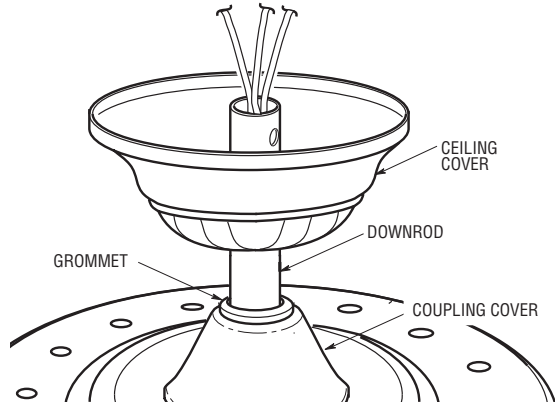

Figure 3
5. Make sure the grommet is properly installed in the coupling cover, then slide the coupling cover on the downrod until it rests on the motor housing. Place the ceiling cover over the downrod. Be sure that the ceiling cover and the coupling cover are both oriented correctly (Figure 3).